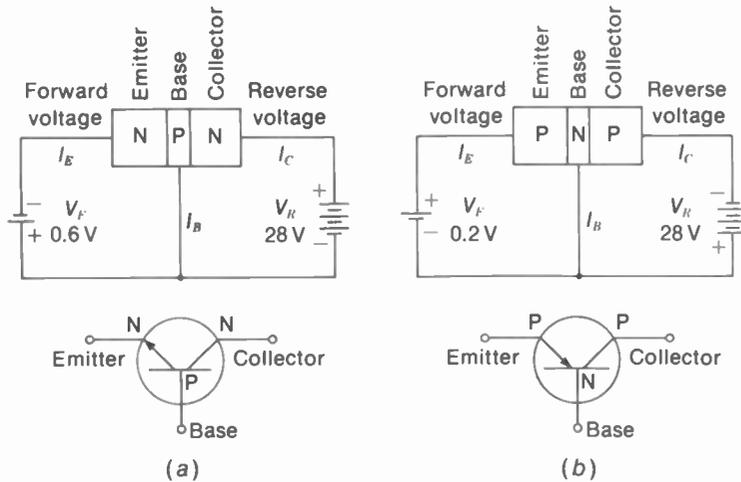

FIGURE 7-14 ELECTRODES AND SYMBOLS FOR JUNCTION TRANSISTORS. (a) NPN, USING Si WITH FORWARD BIAS OF 0.6 V. (b) PNP, USING Ge WITH FORWARD BIAS OF 0.2 V.
**Forward and reverse voltages.** When external voltage is applied to cancel all or part of the internal barrier voltage, this polarity is called *forward voltage* ( $V_F$ ). As shown at the emitter-base junctions in Fig. 7-14,  $V_F$  is positive at the P side and negative at the N side to produce *forward current* through the junction. In short, the polarity for forward voltage is the same as the P and N electrodes.
For reverse voltage ( $V_R$ ) the connections are the opposite. In Fig. 7-14,  $V_R$  for the collector-base junction has the positive side to the N electrode and the negative side to P. Reverse voltage prevents any forward current from flowing across the junction.
**PNP and NPN junction transistors.** As shown in Fig. 7-14, three sections or electrodes are used to form two junctions. Either a P is between two N sections, or the N is between two P sections. With two junctions one can control the current through the other to provide amplification of the input signal. This junction type is also called a *bipolar transistor* because it uses both electrons and hole charges. The three electrodes are called *emitter*, *base*, and *collector*. The base section is in the middle.
Referring to Fig. 7-14, the requirements for electrode voltages in a junction transistor can be summarized as follows: